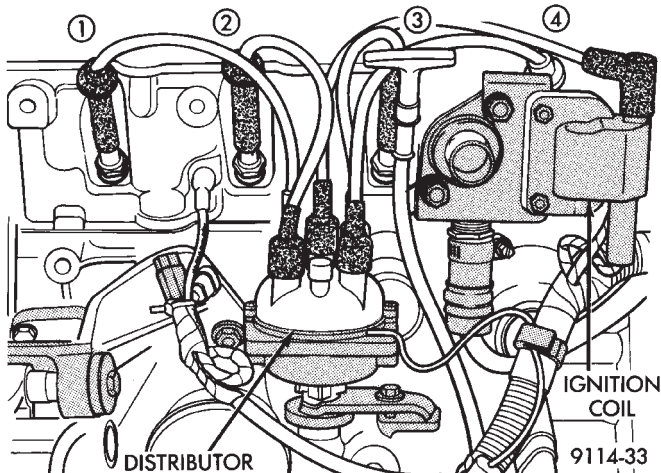

Fig. 6 Ignition Cable Mounting and Attachment
(8) Check Ignition Cable Routing and Attachment (Fig. 6).